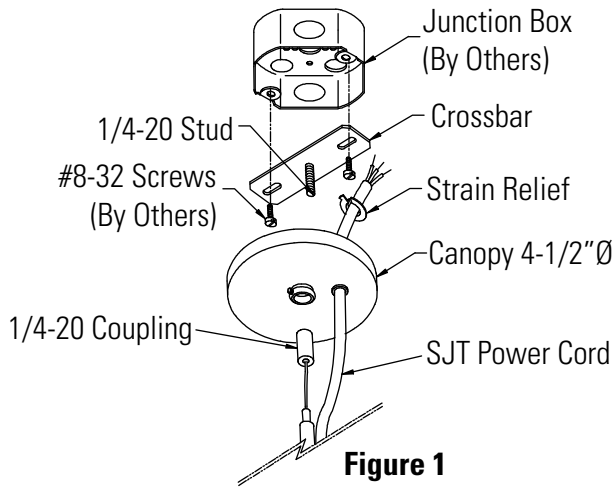

Figure 1
- A. Install the suspension assembly to the junction boxes. (Fig. 1)